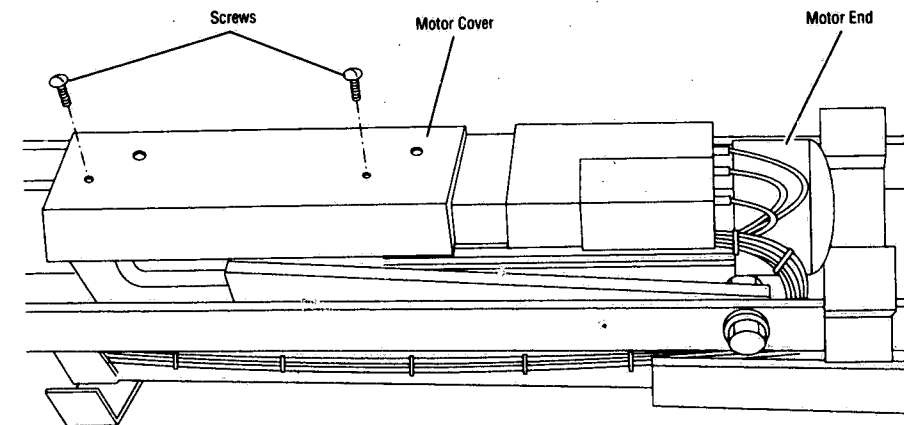

Figure 6-6. Remove Motor Cover
5. Remove draw bar screws from stabilizing bars, one on each bar. Remove two flathead phillips screws from motor cover (see Figure 6-6) and lift cover off motor block.
3. Remove two flathead phillips screws from motor cover (see Figure 6-6) and lift cover off motor block.